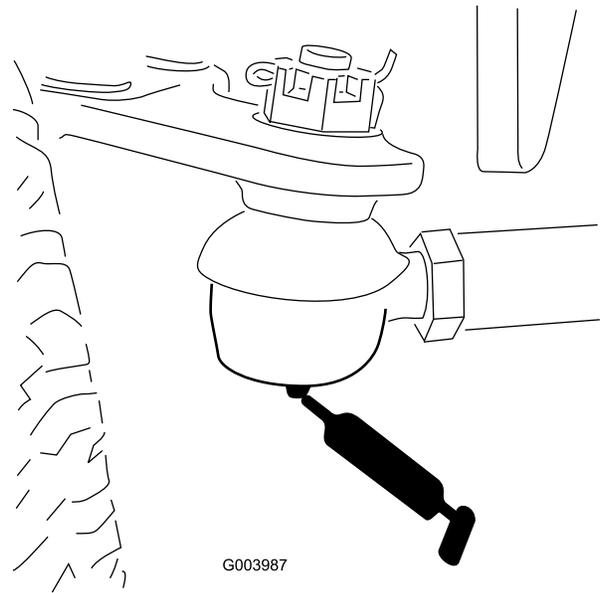

Figure 79
- Rear axle tie rod (2) (Figure 79)